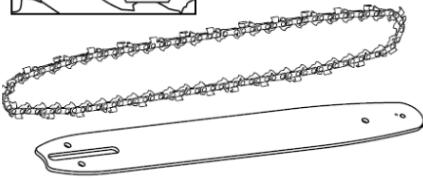

Fig.28A
- Place a new chain in the slot of the guide bar, making sure the saw teeth are facing the correct direction by matching the arrow on the guide bar. (Fig.28A/28B)